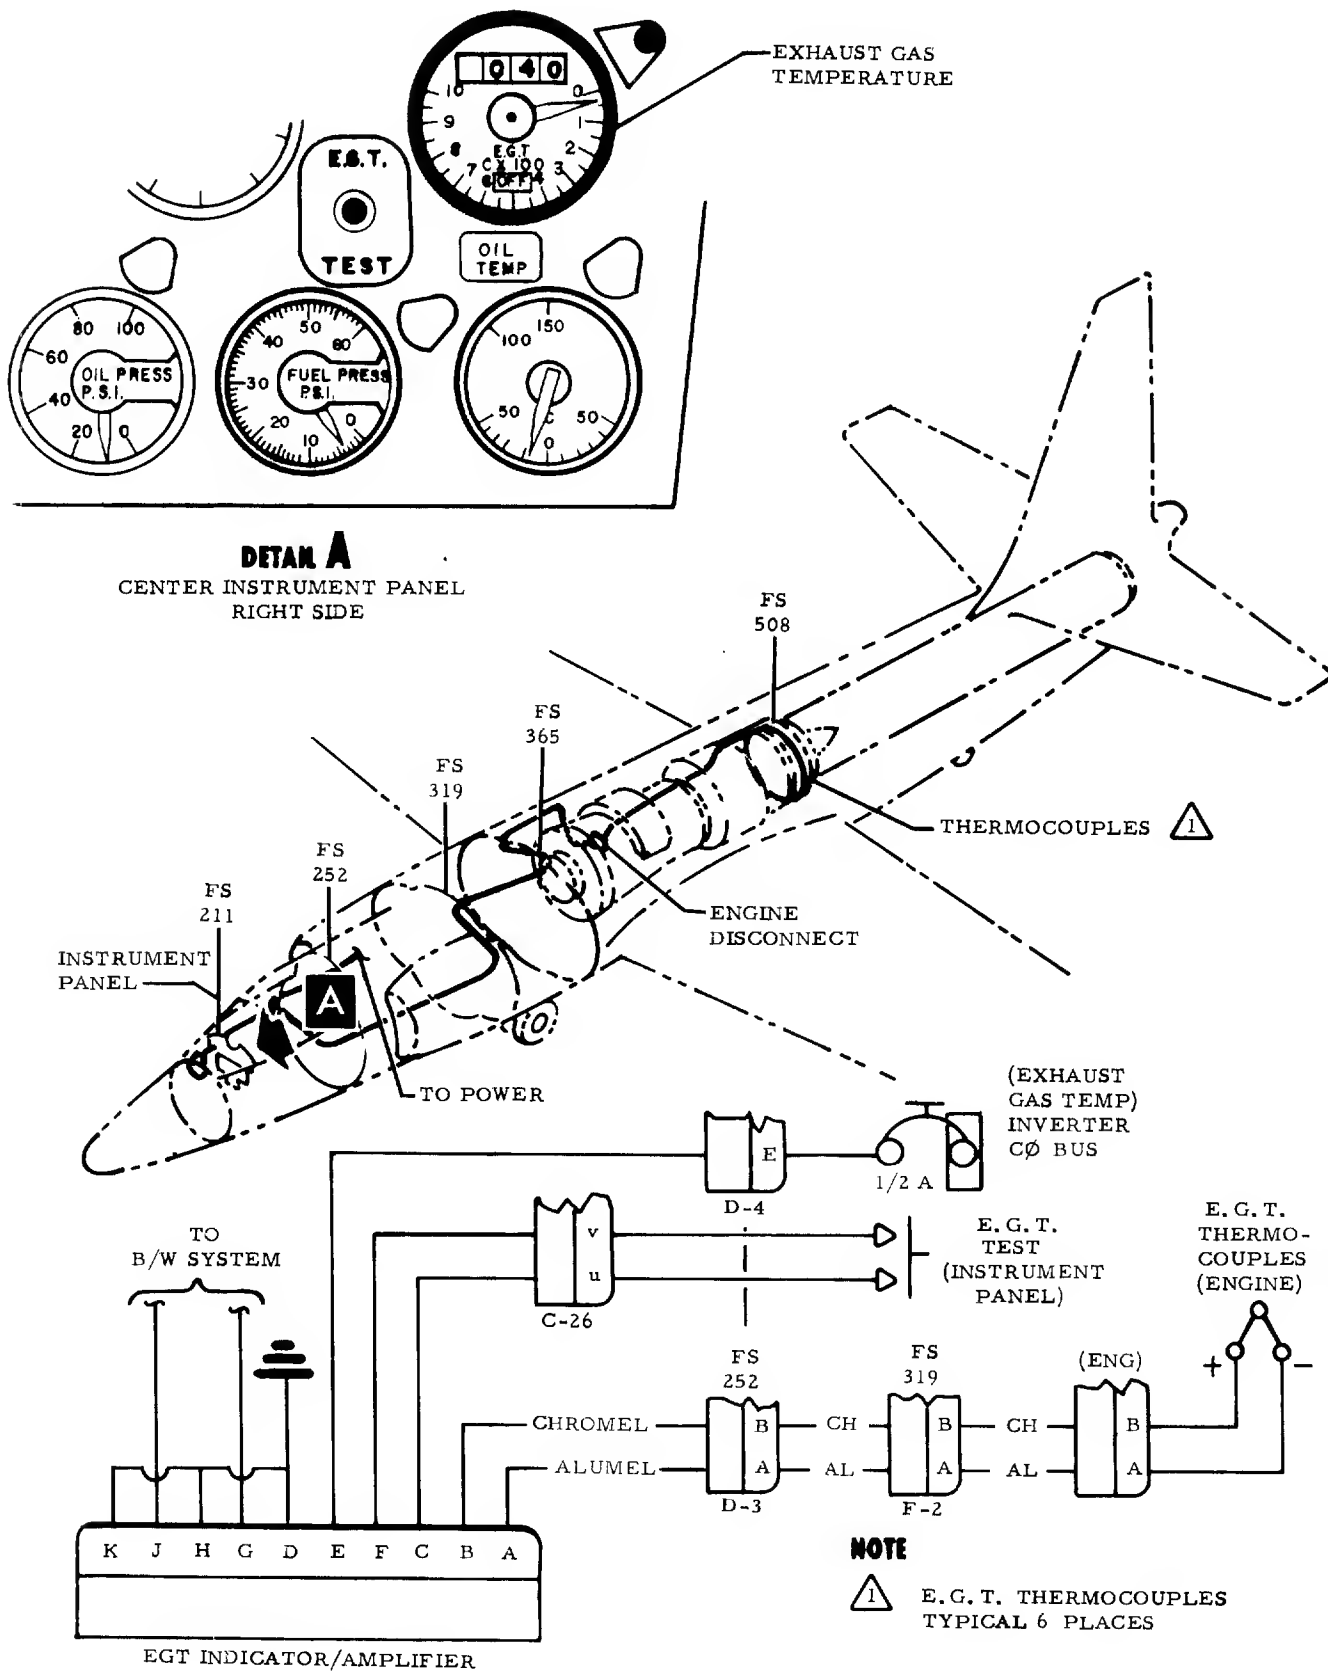
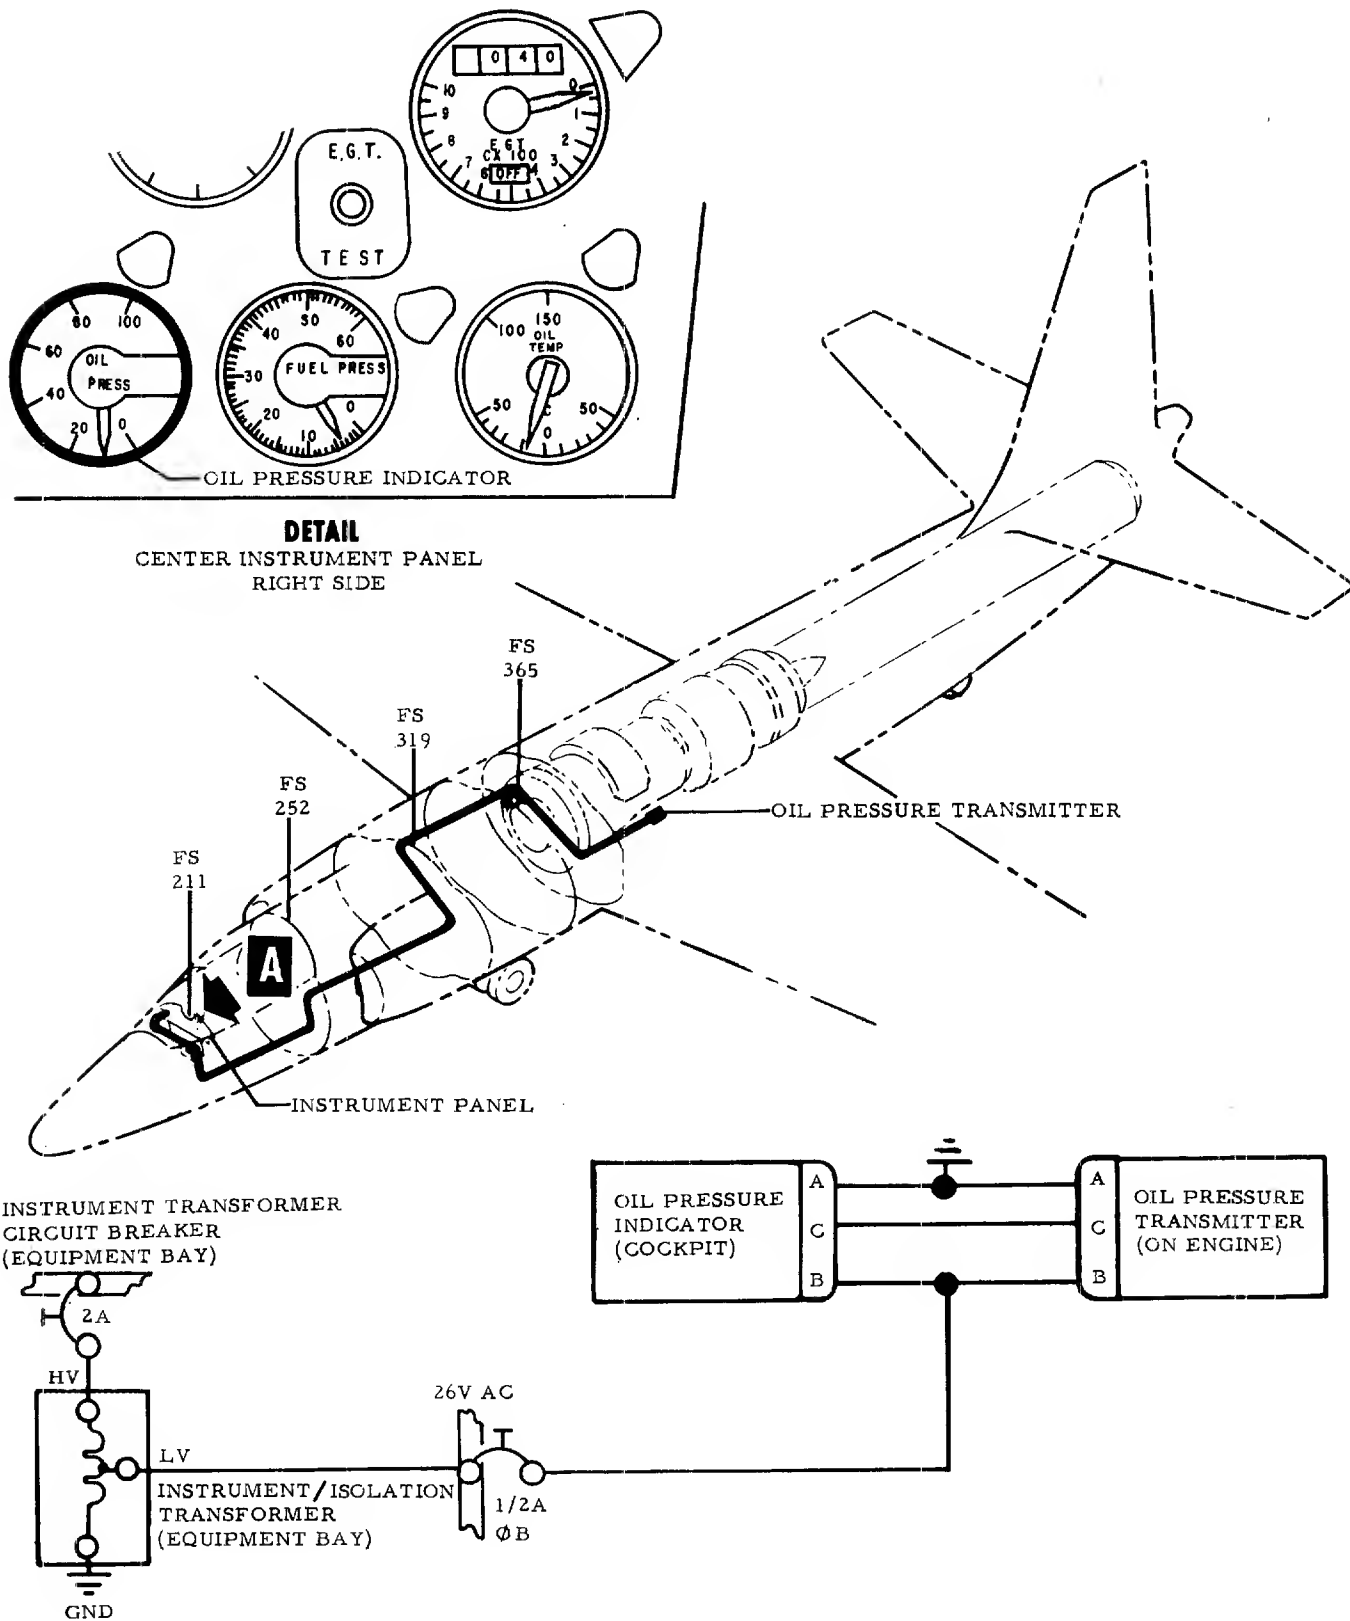

Figure 1-7. Exhaust Gas Temperature Indicating System
Figure 1-8. Engine Oil Pressure Indicating System
- 1-87. The thermocouples used in the exhaust gas temperature system (See figure 1-7.) supply a signal to a temperature indicator on the center instrument panel.
- 1-88. THERMOCOUPLE PROBES. Thermocouple probes (6) are located in the turbine frame just aft of the turbine wheel and are supplied on the engine. A reading is obtained of the average temperature of all the thermocouples. The basic system is chromel-alumel and leads are supplied on the engine to a disconnect point at the lower right-hand side of the main engine access panel, fuselage station 405. From fuselage station 405 disconnect the chromel-alumel leads go forward to fuselage station 252 disconnect and then to the indicator amplifier in the cockpit.
- 1-92. The engine oil pressure system (See figure 1-8.) consists of a pressure transmitter, Edison Part No. 318-100, and an indicator, Edison Part No. 290-100K.